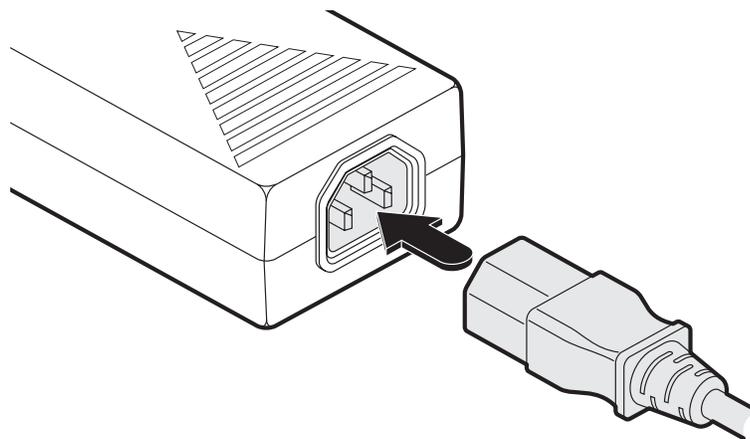

Figure 3-15. Attaching the IEC connector of the power lead to the adapter.
3. Connect the IEC connector of the supplied country-specific power cord to the socket of the power adapter. See Figure 3-15.